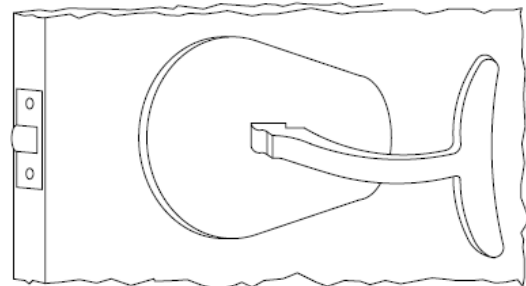

**FIGURE 9e**
4. The Bored Cylindrical Deadlock, Figure 9e, has only a deadbolt. It fits into the same type of cylindrical cutout as that required for the cylindrical lock. It may be operated with a key or a thumb piece.